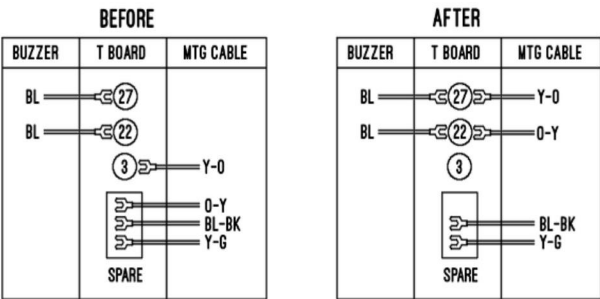

Fig. 21 – Buzzer Wiring for Call Director.
Proper buzzer wiring for Call Director phones is shown in Fig. 21; “Before” is the factory wiring, “After” is the proper wiring for the Seriss KSU:
- Locate O-Y wire (usually spared off as shown in Fig. 21), and move it to join the wire on terminal 22.